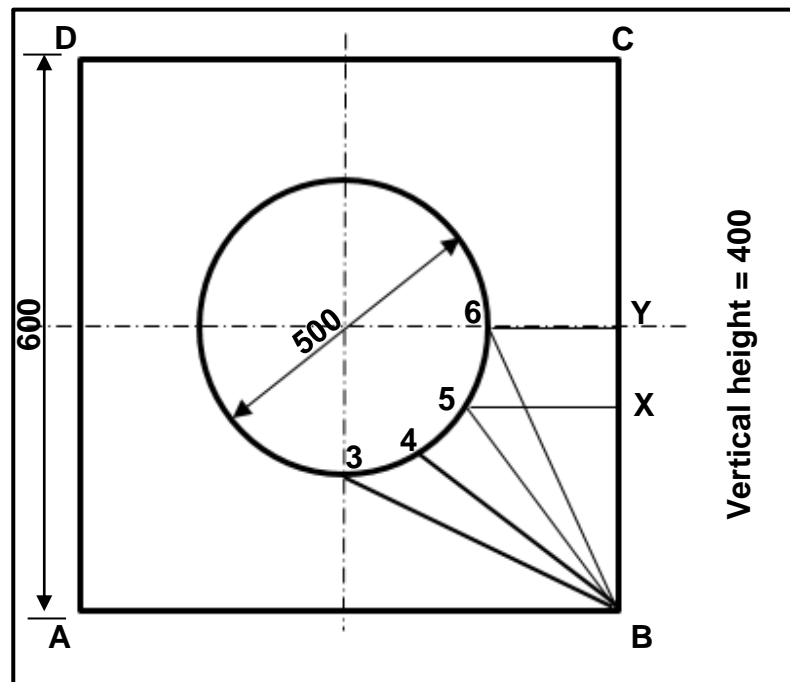

FIGURE 11.2
11.2 FIGURE 11.2 below shows a top view of a square-to-round transformer.